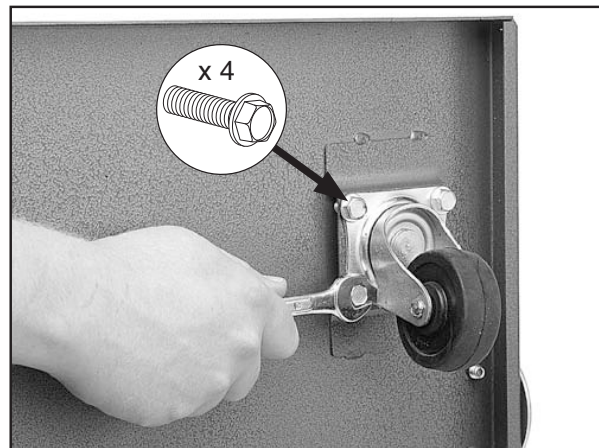

Figure 26. Mounting casters to base.
1. Position the base plate upside down and mount the casters to the base plate using (16) $\frac{5}{16}$ "-18 x $\frac{1}{2}$ " flange bolts, as shown in **Figure 26**.